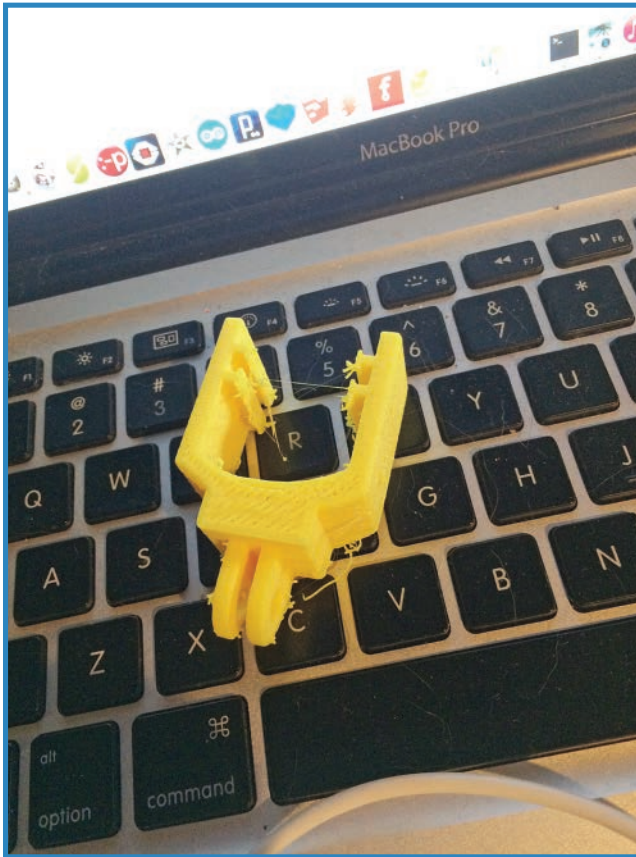

FIGURE 12.10 The camera mount, hot off the printer.
1. Print off the aforementioned two Thingiverse pieces, the ContourHD mount and GoPro adapter (http://www.thingiverse.com/thing:423077_) and the GoPro Arca Mount (<http://www.thingiverse.com/thing:234654>). You can see one of the prints in Figure 12.10.